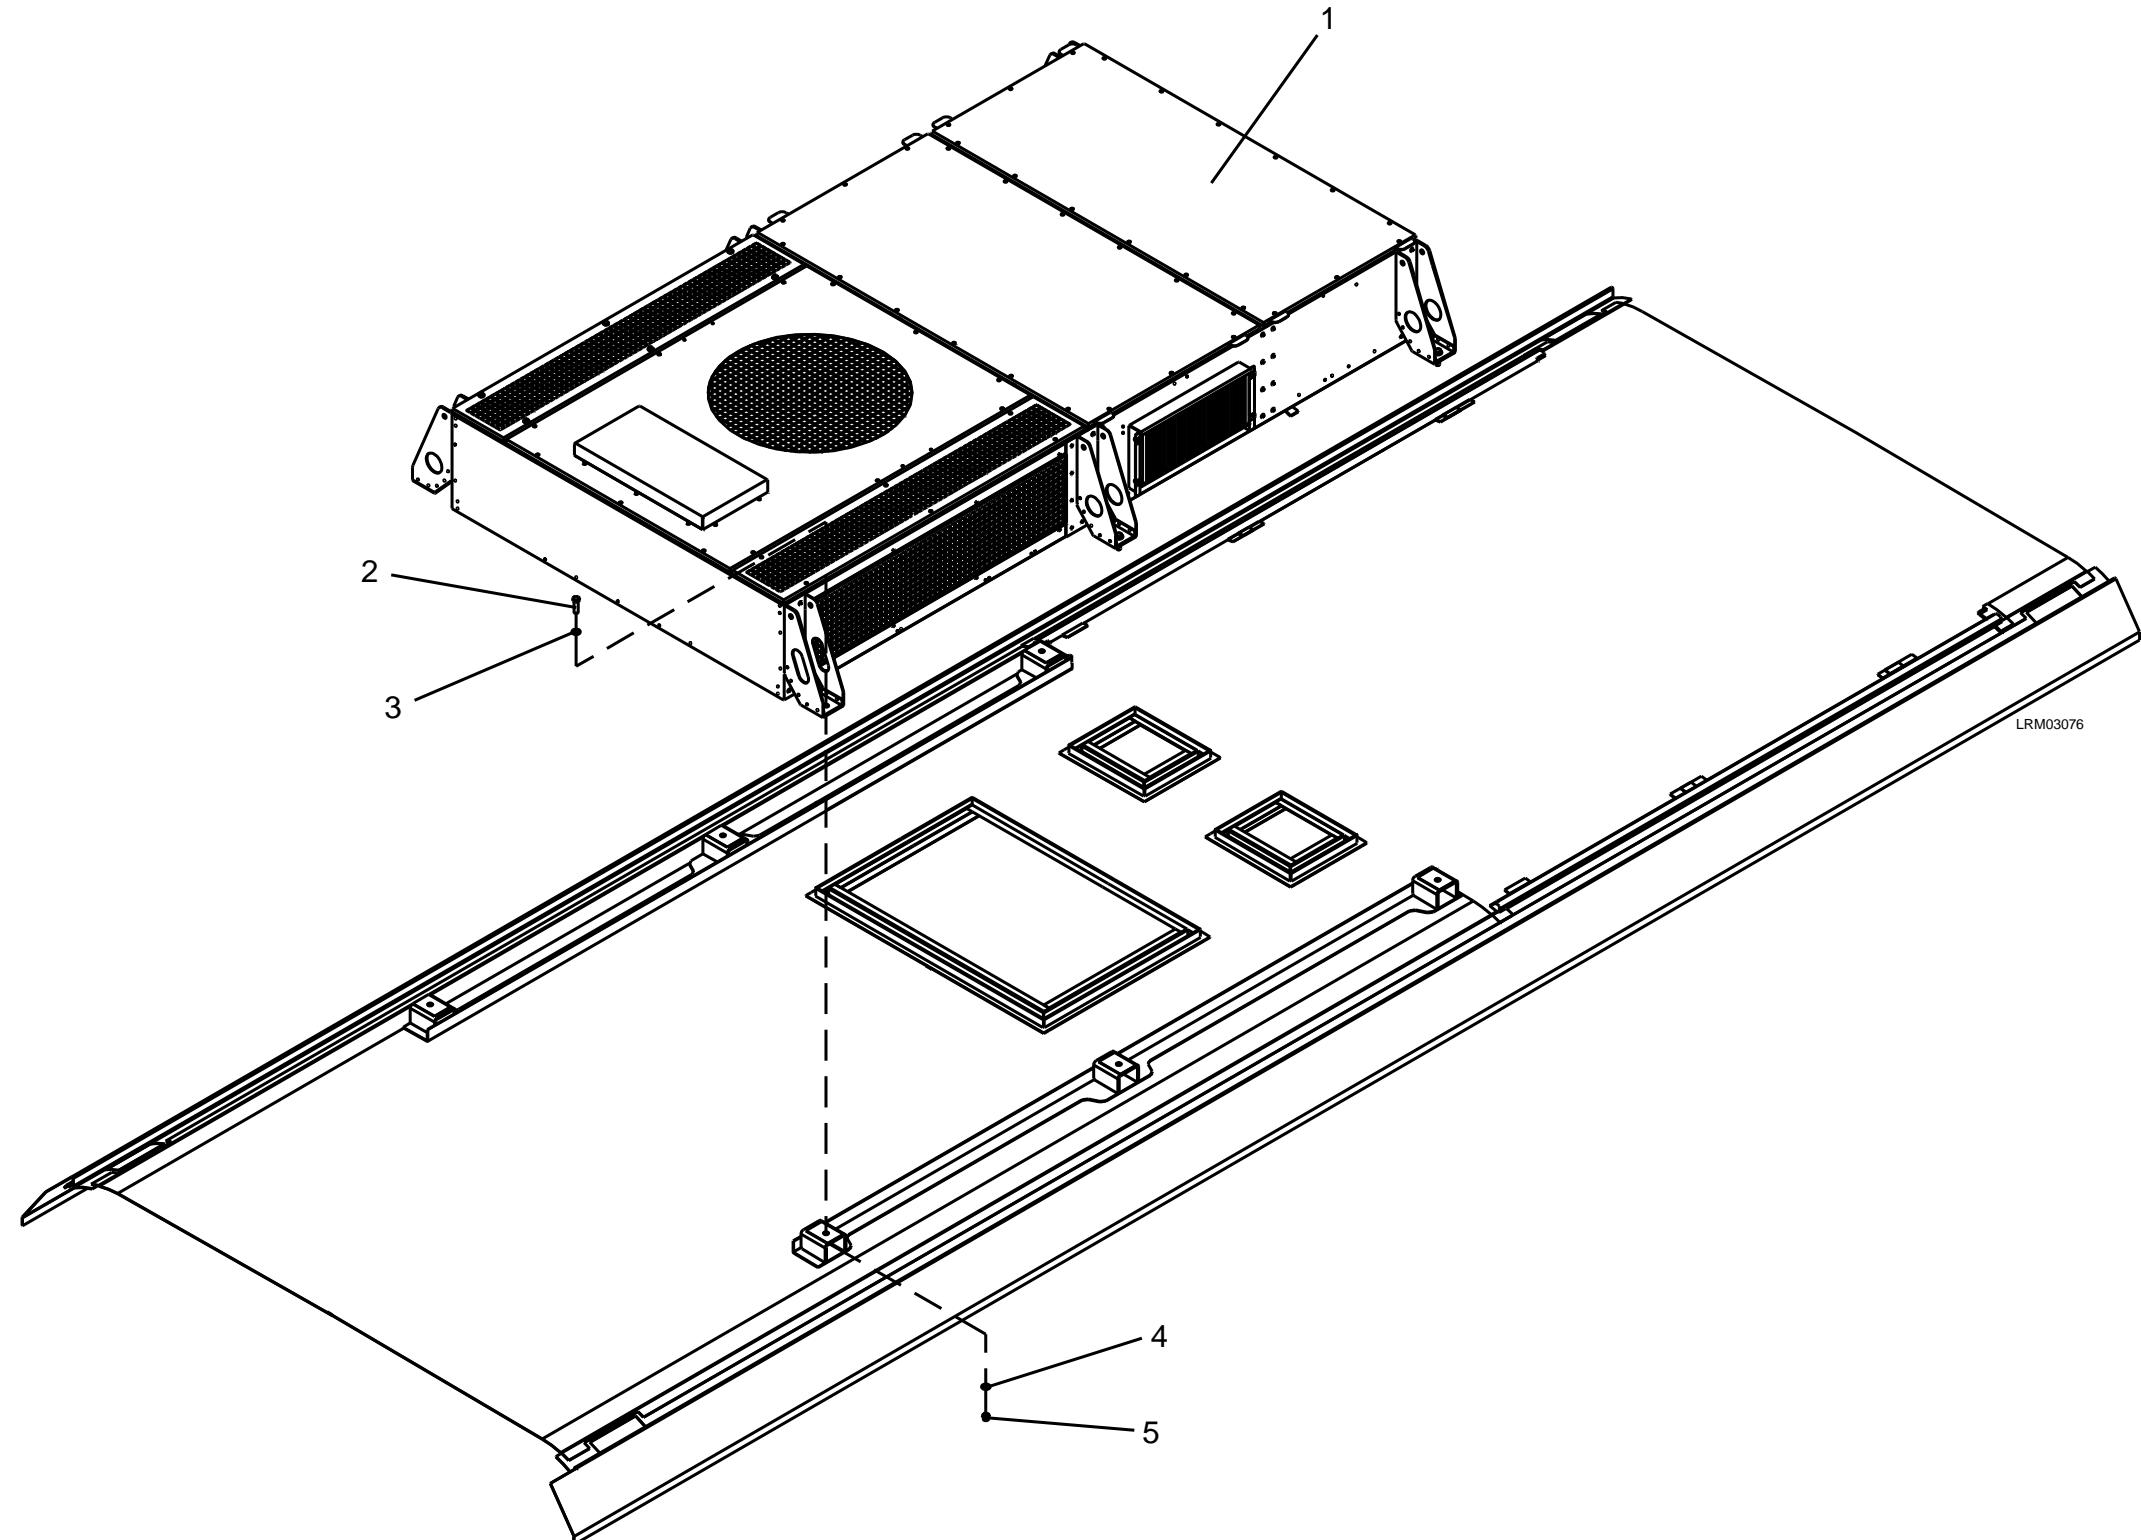

Figure 7-122: Heating, Ventilation and Air Conditioning (HVAC) Unit
1. Disconnect the electrical connectors from the HVAC Unit (1).
2. Remove the six M14 ESNA nuts (5) and M14 plain washers (4), M14 x 50 bolts (2), and M14 plain washers (3). See Figure 7-122.
3. Carefully remove the HVAC Unit (1) from the mounting bracket. Refer to Section 0500, HVAC of the Heavy Repair Maintenance Manual for the proper use of the lifting jig during HVAC unit replacement.